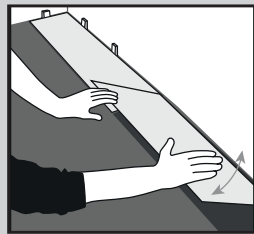

Fig. 2
2. Install the first row, ensuring the short edges are clicked together (Fig. 2).